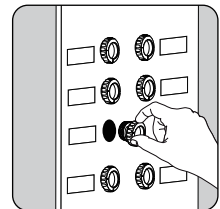

FIG.3 FUSE BOX
*FIG. 3.* Place either the main (Master) switch to the "OFF" position, cutting off power to your entire home OR unscrew the fuse that provides power to where the fixture will be installed.
Note: When power is first applied, the light will stay on for approximately 15 seconds to allow the circuit to stabilize. Screw down the lamp body mounting nut, remove the lamp body and adjust the infrared sensor knob to achieve 3 main functions (see Fig.3).